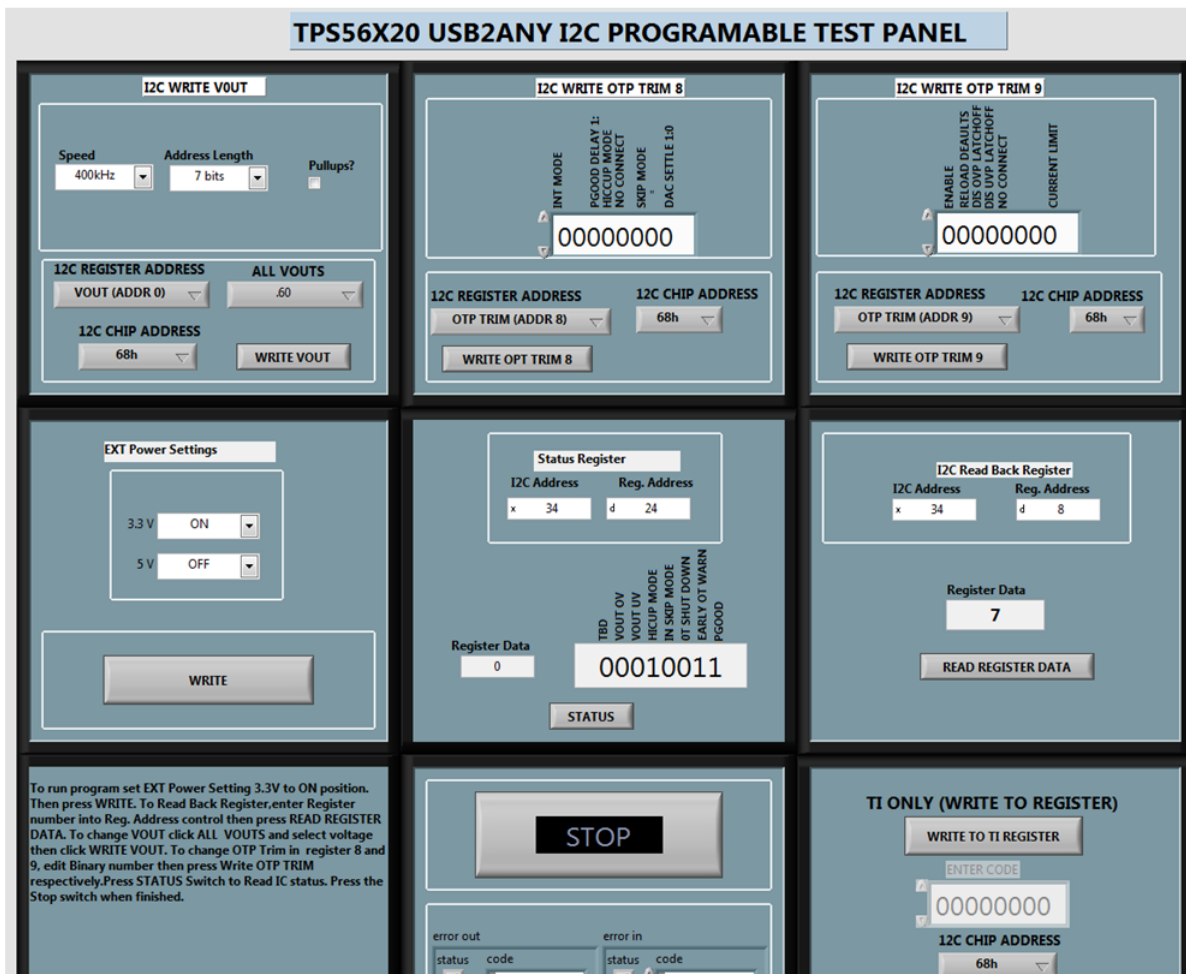

Figure 2. TPS56X20 I2C TEST PANEL
1. Go to Program Files and click on the TPS56X20 I2C TEST PANEL Application. The TPS56X20 I2C TEST PANEL will load as shown in Figure 2.